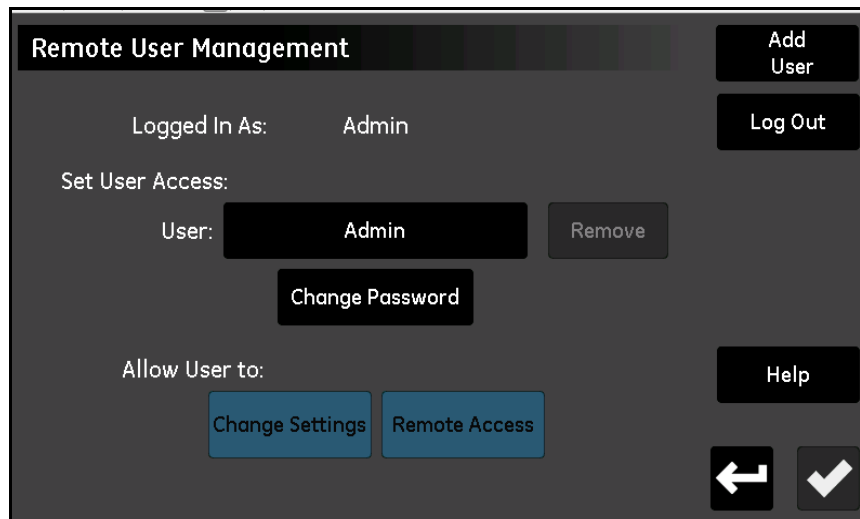

Figure 71: Web User Management Screen
Enter your password and tap the **Log In** button. On a successful login, the *Web User Management* screen shown in *Figure 71* below is opened.
The **Operator** password should be changed at the earliest opportunity. The steps for changing the **Operator** password are the same as for changing the **Admin** password (see previous section). Select the **Operator** account from the *Web User Management* screen (see *Figure 71 on page 78*), then enter and confirm the new password.
4. Tap the **Log In** button to open the *Remote User Management* screen (see *Figure 71 on page 78*).